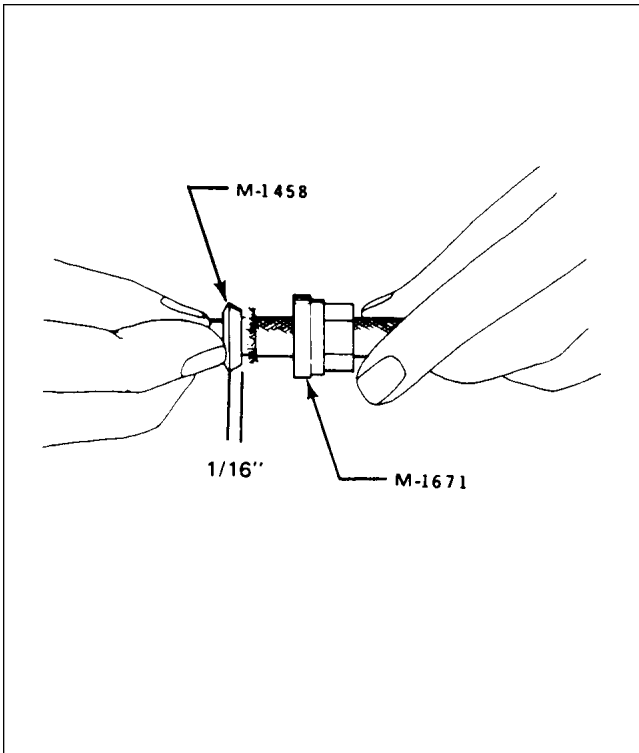

Figure 74-21. Installation of Ferrule
- i. On spark plug end of wire install M-1458 male tapered drive ferrule over silicone insulation and under shielding to within 0.062 inch from flange of ferrule. Make sure that shielding is away from ferrule flange then slide ferrule M-1671 over the M-1458 drive ferrule until tight. Refer to Figure 74-21